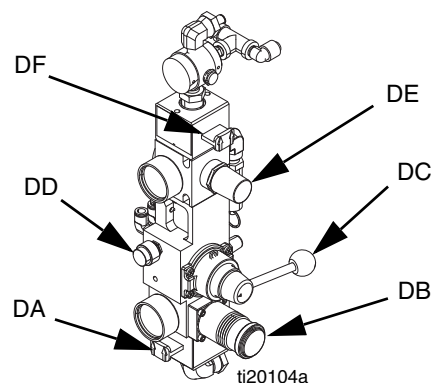

FIG. 32: Feed Pump Controls
- Slide main air slider valve (DA) and air motor slider valve (DF) to the OFF position. See FIG. 32.
- m. With the platen pressing into the fluid, slide the air motor slider valve (DF) to the ON position. See FIG. 32. Feed pump will start cycling. Continue pumping until pail is empty or desired amount of fluid has been added to the tank. Slide the air motor slider valve (DF) to the OFF position to stop the feed pump.
- n. To lift the platen out of the pail, press the blow-off valve (DD) then lift the director valve. The feed pump will push pressurized air into the pail to remove it from the platen. Do not let the pail lift off of the frame. If it does, lower the platen then retry.